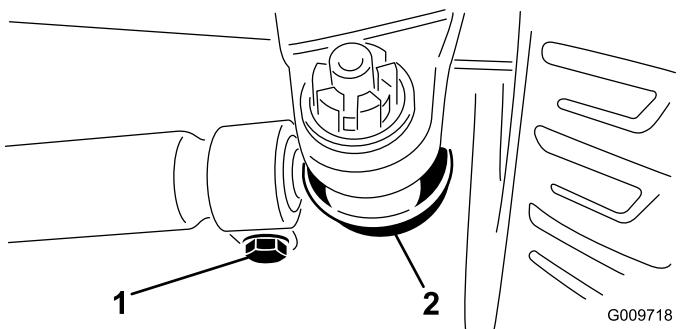

Figure 49
3. Loosen the clamps at both ends of the tie rods (Figure 49).
4. Rotate the detached ball joint inward or outward one (1) complete revolution. Tighten clamp at loose end of tie rod.
5. Rotate the entire tie rod assembly the same direction (inward or outward) one (1) complete revolution. Tighten clamp at connected end of tie rod.
2. To adjust, remove the cotter pin and nut from either tie rod ball joint (Figure 49). Remove tie rod ball joint from axle case support.